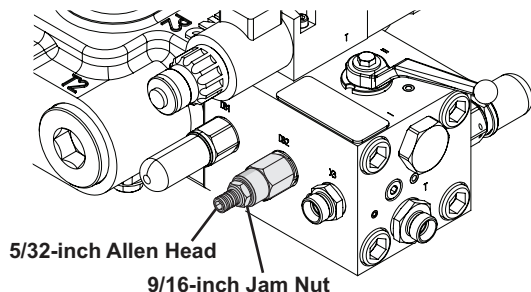

Figure 44
2. Loosen the soft switch relief valve jam nut (Figure 44) with a 9/16 open end wrench, and use a 5/32 allen key to adjust the pressure. Turn the adjustment screw *in* (clockwise) to raise the pressure or *out* (counter clockwise) to lower the pressure.